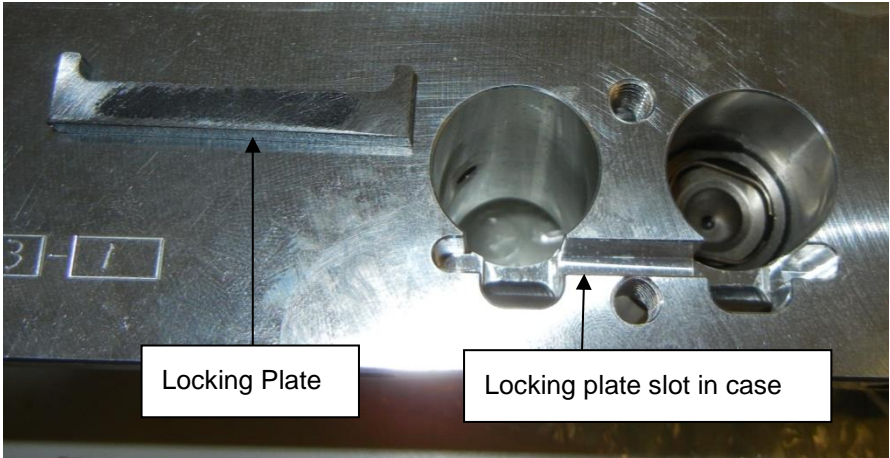

**Figure 57 – Oil Return Manifolds**
- Where equipped, oil return manifolds (Figure 57) are removed by removing the two retaining cap screws.